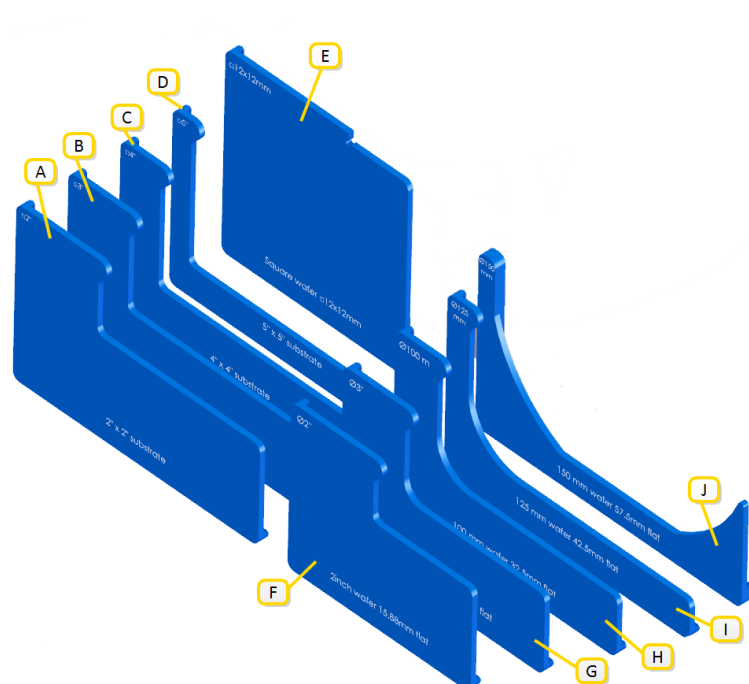

Figure 3-9 Substrate placement tools
10. Take the placement tool set as shown in Figure 3-9